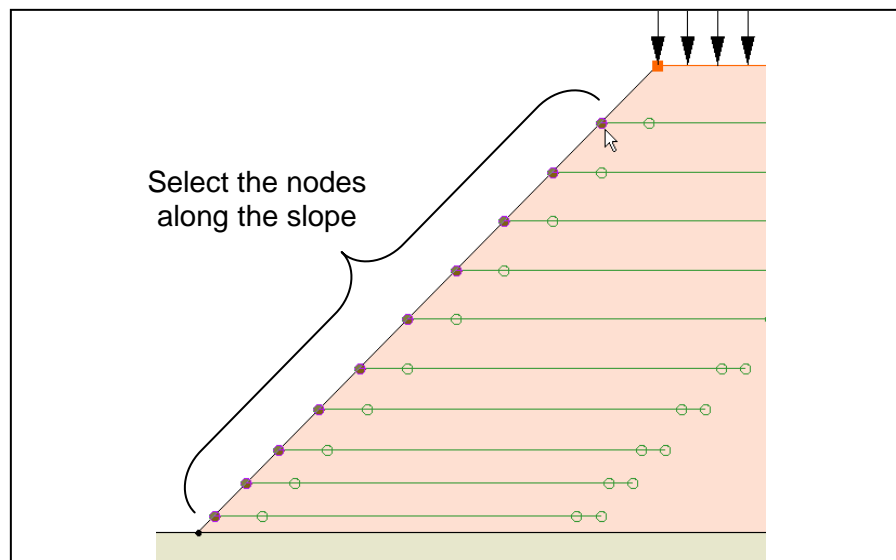

Figure 5 Selecting the reinforcement nodes along the slope
2. Hold down the shift key and select all the reinforcement nodes on the left ends of the reinforcement arcs – the nodes that intersect the slope – as shown in Figure 5 below.